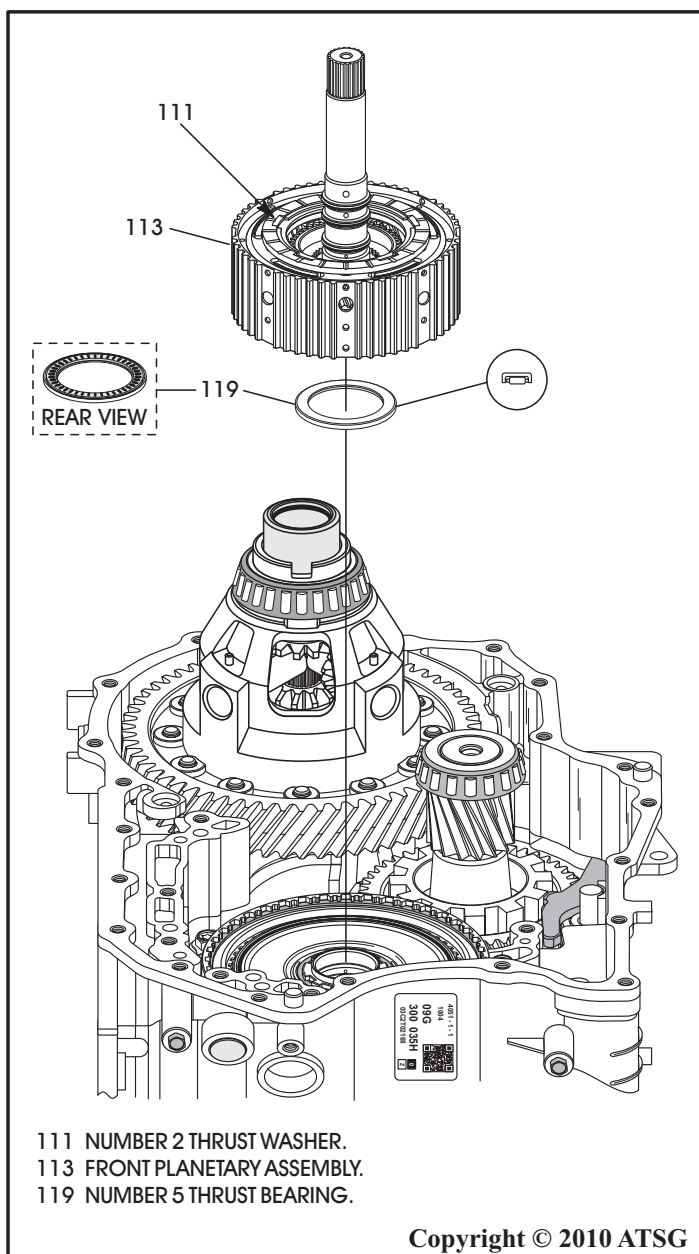

Figure 180
7. Install the completed front planetary assembly, as shown in Figure 180, ensuring that number 5 thrust bearing and number 2 thrust washer are still in place.